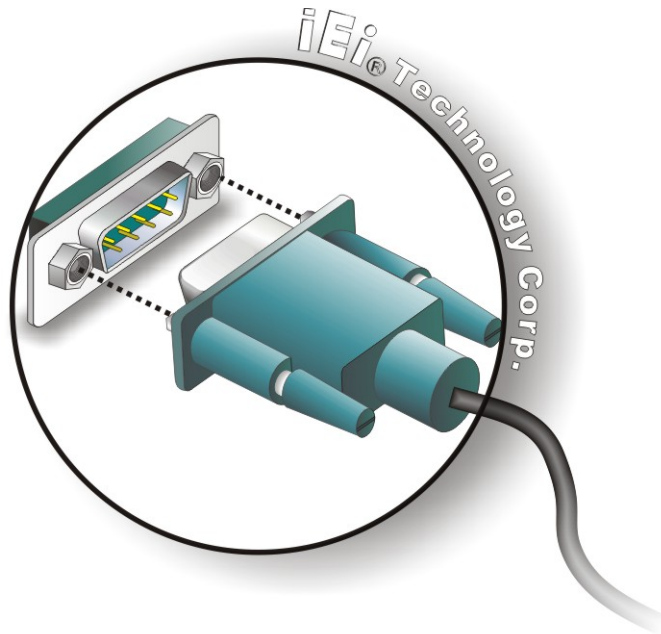

Figure 4-18: Serial Device Connector
Step 2: Insert the serial connector. Insert the DB-9 connector of a serial device into the DB-9 connector on the external peripheral interface. See **Figure 4-18**.